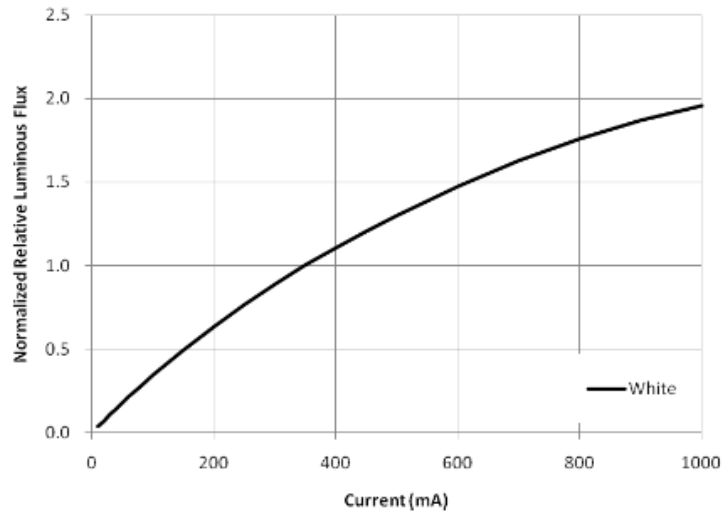

Figure 15. C35 LED L-I curve
4. Brightness has a strong relationship with driving current as shown in Figure 15.